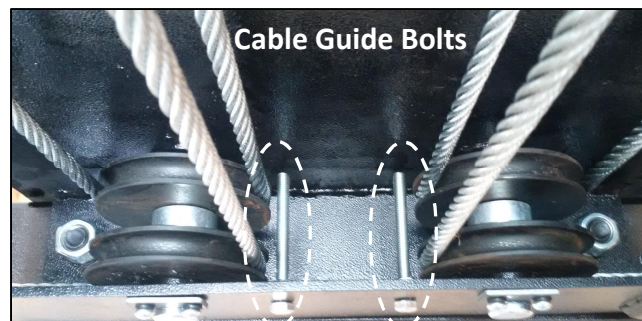

Fig. 7
18. Install Cable Guide Bolts & Nuts (#21B) to the underside of the Mainside Runway at each end, as illustrated in Fig. 7. Four Guide Bolts will be installed at one end and two at the other end. **Note:** Cable Guide Bolts assists in keeping the Cables properly engaged to the Pulleys.